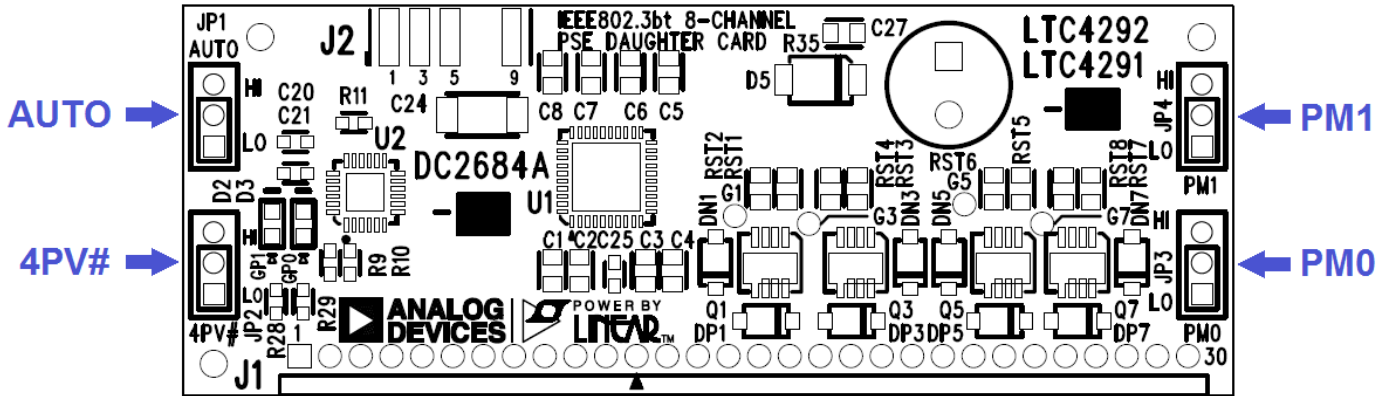
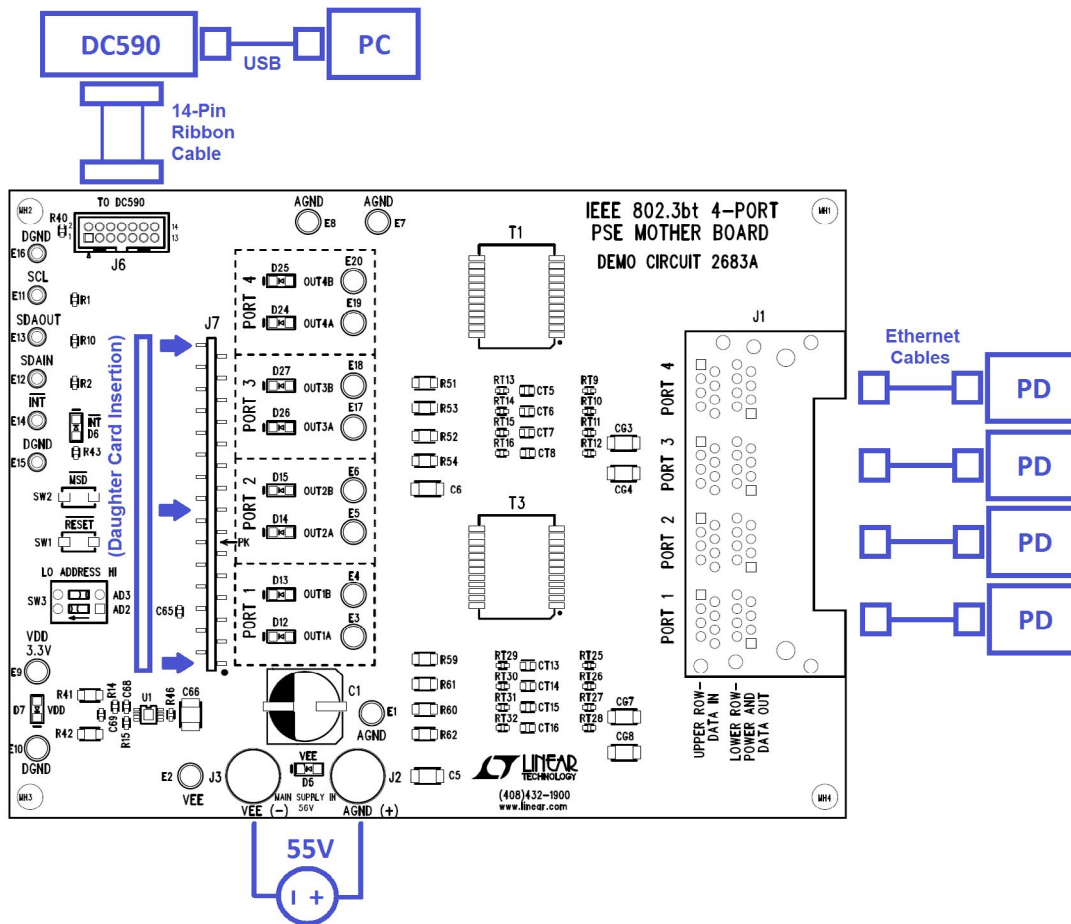

Figure 1. DC2684A-B Jumpers: AUTO, 4PV#, PM0 and PM1
Figure 3. DC2685B-KIT Connections
Follow the quick start procedure below for basic operation of the DC2685B-KIT. Refer to Figure 1 through Figure 3 and Table 1 through Table 4 for proper equipment setup.
1. On the DC2684A-B daughter card set AUTO jumper JP1 (Figure 1) to a selected AUTO mode setting shown in Table 1.
2. On the DC2684A-B daughter card set 4PV# jumper JP2 (Figure 1) to a selected 4-Pair Valid setting as shown in Table 1.
3. On the DC2684A-B daughter card set PM1 jumper JP4 and PM0 jumper JP3 (Figure 1) to the power mode for evaluation specified in Table 2.
5. Connect a supply to the motherboard with the positive rail to AGND (+) and negative rail to V_{EE} (-) as shown in Figure 3. Use a power supply capable of sourcing the maximum delivered power for all four ports set by JP3 and JP4 on the daughter card (or I²C configured power). Ramp the supply up to within the recommended voltage range specified in Table 3.
8. Connect the DC590 to the DC2683A at connector J6 with a 14-pin ribbon cable as shown in Figure 3 and open the QuikEval GUI. A GUI for the LTC4291-1/LTC4292 is brought up by QuikEval. (Follow the DC590 demo manual instructions if this has not been previously setup.)
9. Connect up to four PDs to the DC2685B-KIT RJ45 connector J1, bottom row ports 1-4 as shown in Figure 3.
The V_{EE} supply is the main PoE supply and connects to the DC2683A with the positive rail to AGND (+) and the negative rail to V_{EE} (-) as shown in Figure 3 of the Quick Start Procedure. The voltage must be within the range shown in Table 3 depending on the application PSE type. For full load testing at each port, choose a power supply that is set with a current limit higher than the maximum allowed output power at each port.